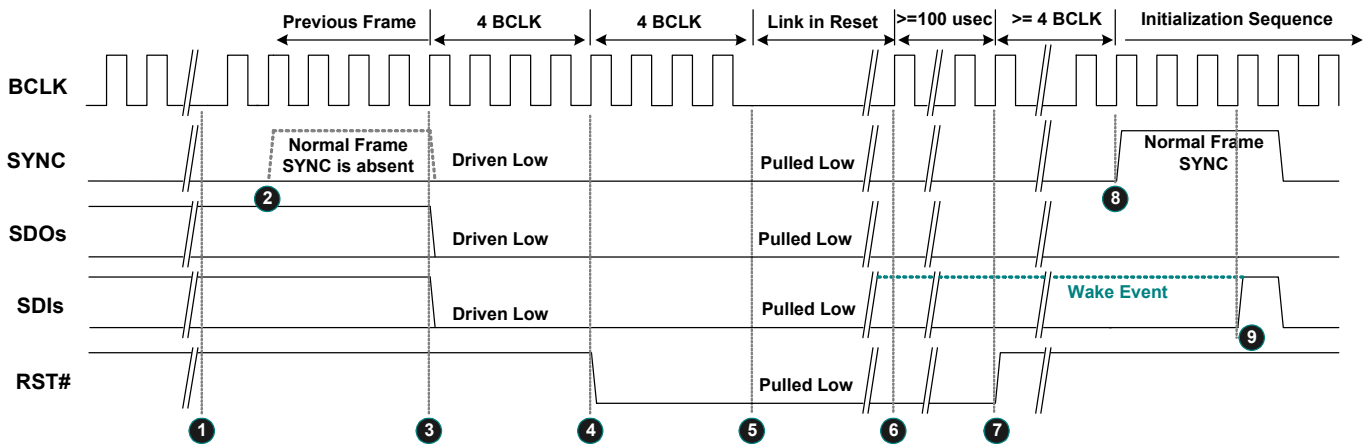

Figure 13. Link Reset Timing
- 3). Software initiates power management sequences. Figure 13, page 19, shows the ‘Link Reset’ timing including the ‘Enter’ sequence (❶~❺) and ‘Exit’ sequence (❻~❸)